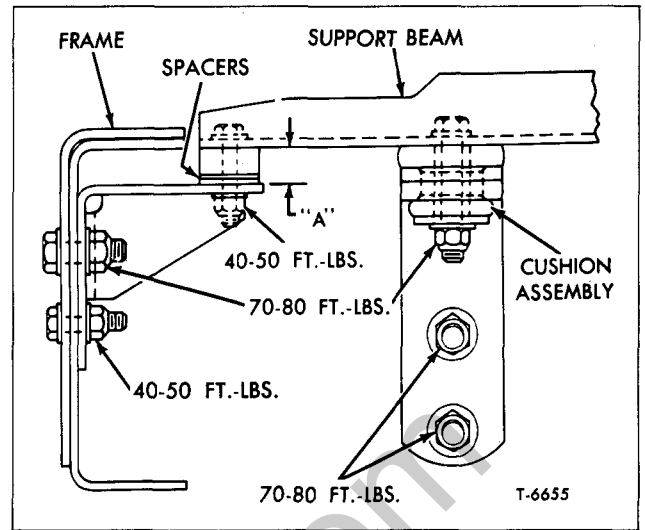

Figure 3—Transmission Rear Mounting (Conv. Cab with SP 8716-3B or SP 8516-3B)
NOTE: The following installation instructions apply to transmissions with the rear mounts as shown in figure 3.
3. Jack up transmission high enough to permit installation of spacers. Install all attaching parts as shown in figure 3. Be sure all attaching parts are properly torqued.